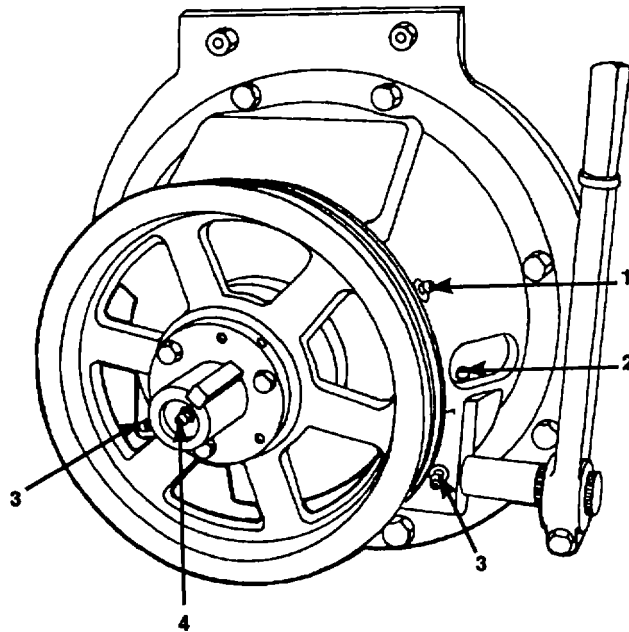

Figure 3-43. Grease Fittings
- a. To service the clutch thrust bearing, throw out collar and lever shaft; use hand-operated grease gun on grease fittings (1, 2, and 3, figure 3-43) (one stroke only).
- b. To service clutch pilot bearing (4), use hand-operated grease gun (two strokes only).
- c. To service clutch main shaft bearing (3), use hand-operated grease gun (four to six strokes only).